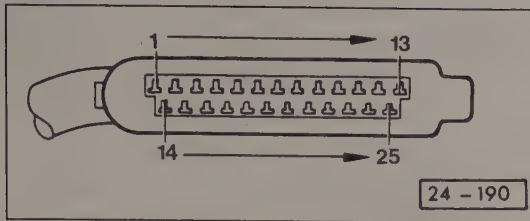

Fig. 5-8. Digifant control unit harness connector terminal identification.
2. Using an ohmmeter or a multimeter set to the 20k Ω scale, check continuity between terminals 2 and 13 of the Digifant control unit harness connector. See Fig. 5-8. There should be no continuity. If there is, there is a short to ground in the oxygen sensor wiring.